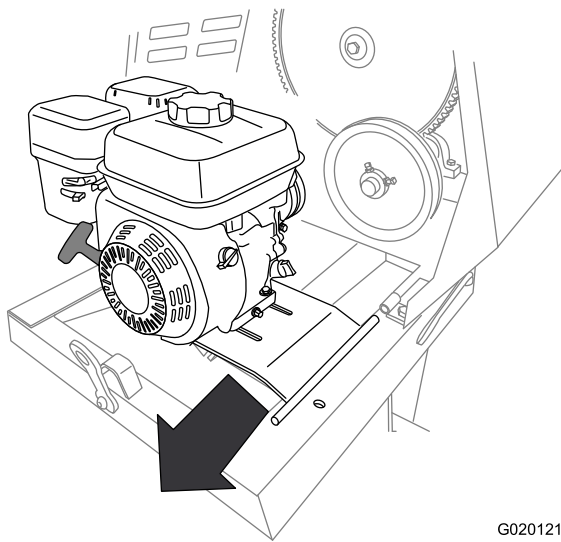

Figure 52
- Slide the engine deck rearward and out from the forward hinge bracket (Figure 52).
9. Remove the engine and engine deck from the machine (Figure 52).
2. Align the pivot on the engine deck with the forward hinge bracket (Figure 52).
3. Slide the engine deck forward and the pivot into the forward hinge bracket (Figure 52).
4. Align the rear hinge bracket with the pivot on the engine-deck hinge (Figure 52).